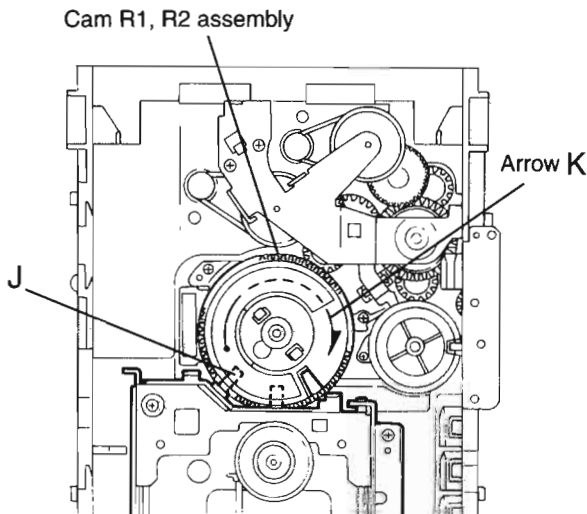

Fig.11
**Removing the CD mechanism (See Fig.11 and 12)**
1. For dismantling only the CD mechanism without removing the CD mechanism assembly, align the shaft "J" of the CD mechanism assembly to the position shown Fig.11 while turning the cam R1 and R2 assembly in the arrow direction "K".